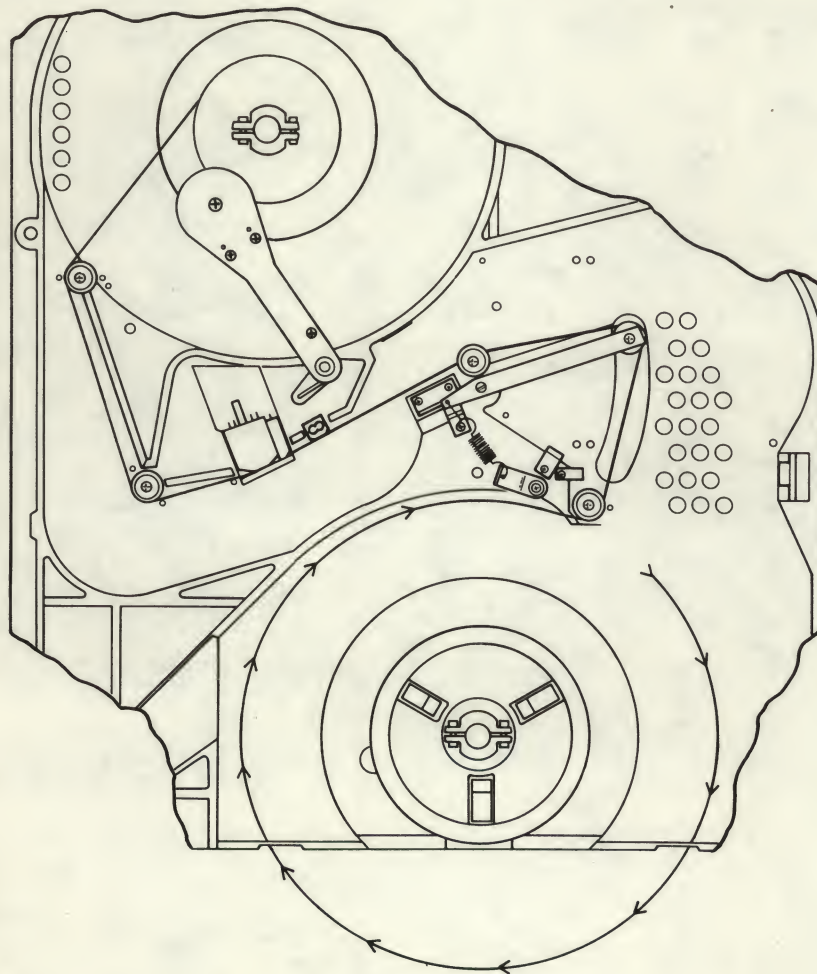

Figure 2-2. Tape Threading Path
- e. Thread tape along path shown in Figure 2-2. Carefully move tachometer assembly carefully away from takeup hub, and, making one wrap of tape clockwise around takeup hub, gently replace tachometer assembly. Check that tape is seated correctly on guides and threaded properly over head assembly.